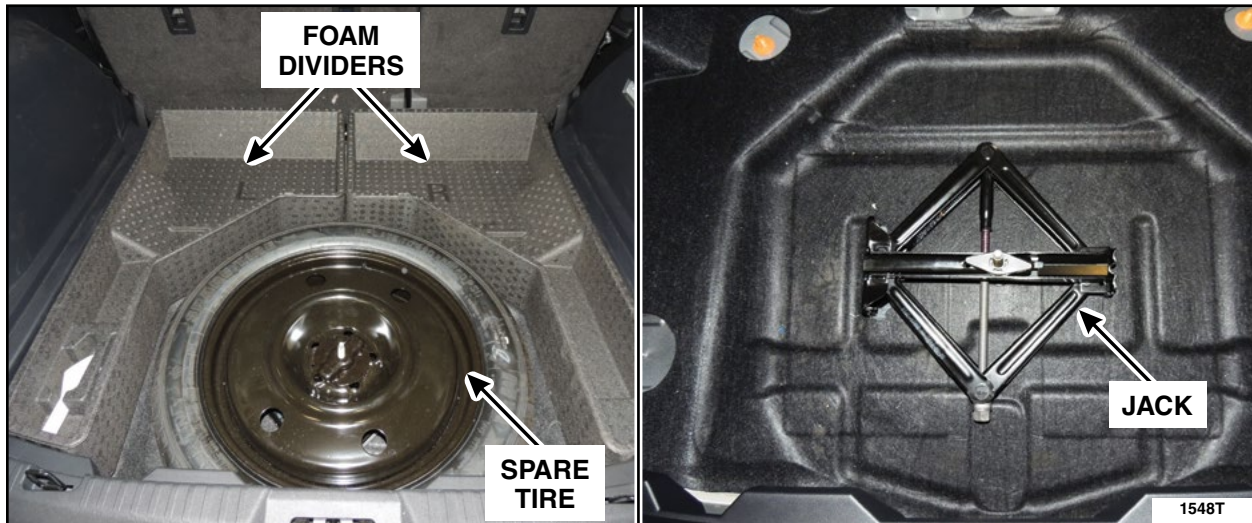

FIGURE 22
40. Remove the spare tire, foam dividers, and jack assembly. See Figure 22.